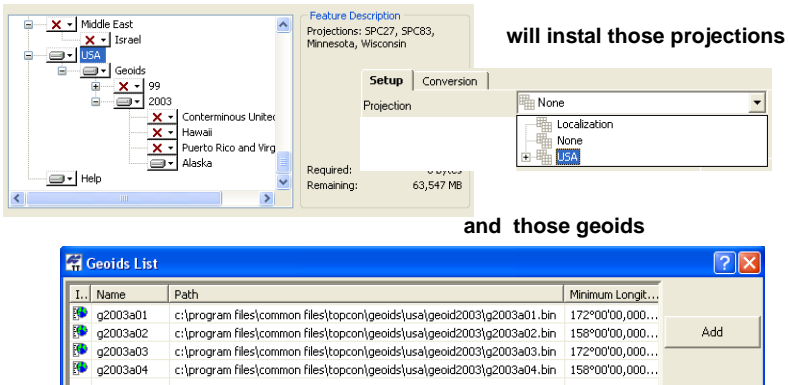

Figure 1-6. Example of Custom Setup Installing
4. The projection list contains the custom projections and those projections, which were highlighted in the process of installation (Figure 1-6).
5. The geoid list contains the geoids, which were used in the previous version and those geoids, which were highlighted in the process of installation (Figure 1-6).